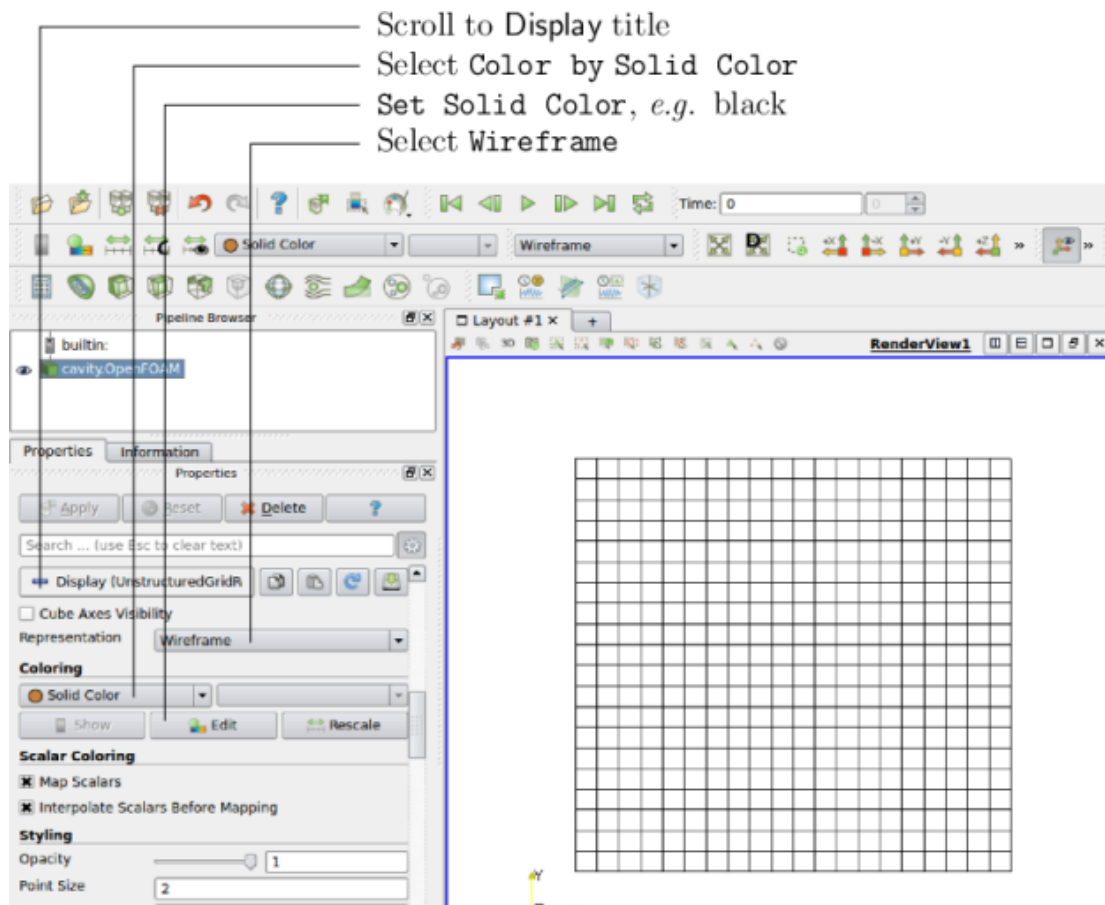

Figure 2.3: Viewing the mesh in *paraFoam*.
The user should then scroll down to the *Display* panel that controls the visual representation of the selected module. Within the *Display* panel the user should do the following as shown in Figure 2.3: (1) set *Coloring* Solid Color; (2) click *Set Ambient Color* and select an appropriate colour e.g. black (for a white background); (3) select *Wireframe* from the *Representation* menu. The background colour can be set in the *View Render* panel below the *Display* panel in